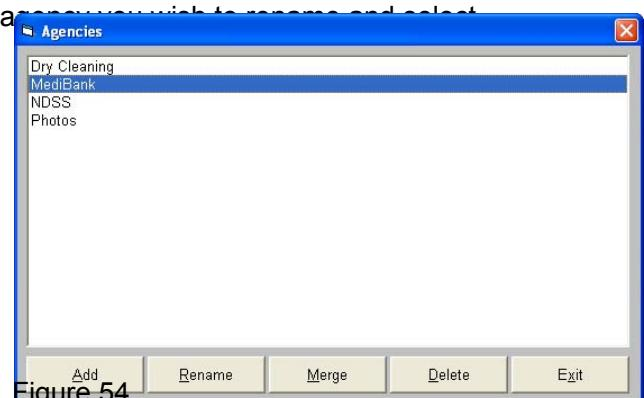

Figure 54
2. From the 'Agencies' screen, highlight the agency you wish to rename and select 'Rename' (Figure 54).